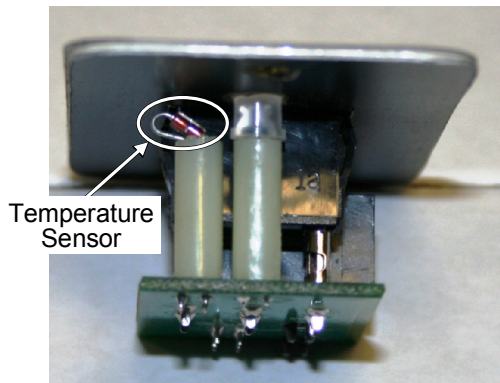

Figure 2, Locating Sensor
1. Find the temperature sensor behind the remote switch front plate; it is a small reddish looking device close to the metal front plate (see Figure 2).